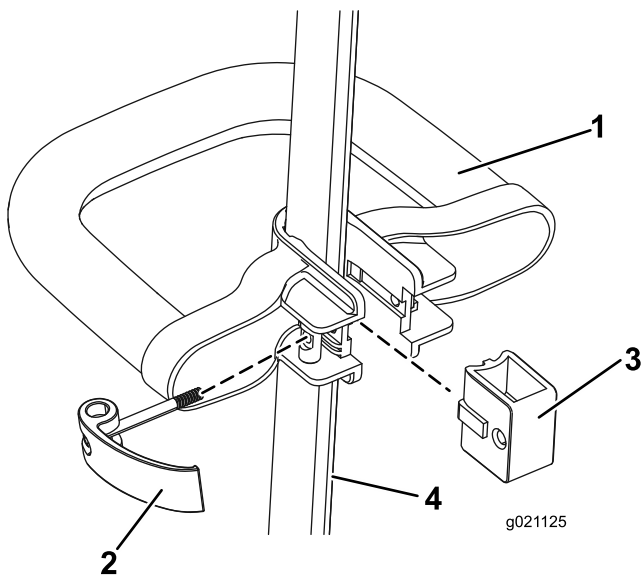

Figure 5
1. Position the auxiliary handle on the upper shaft of the trimmer with the smooth surface facing the operator (Figure 5).
2. Slide the brace into the auxiliary handle so that the brace rests in the groove along the shaft (Figure 5).
3. Slide the latch from the left through the handle and brace as shown in Figure 5 and tighten the latch screw with a Phillips head screwdriver.